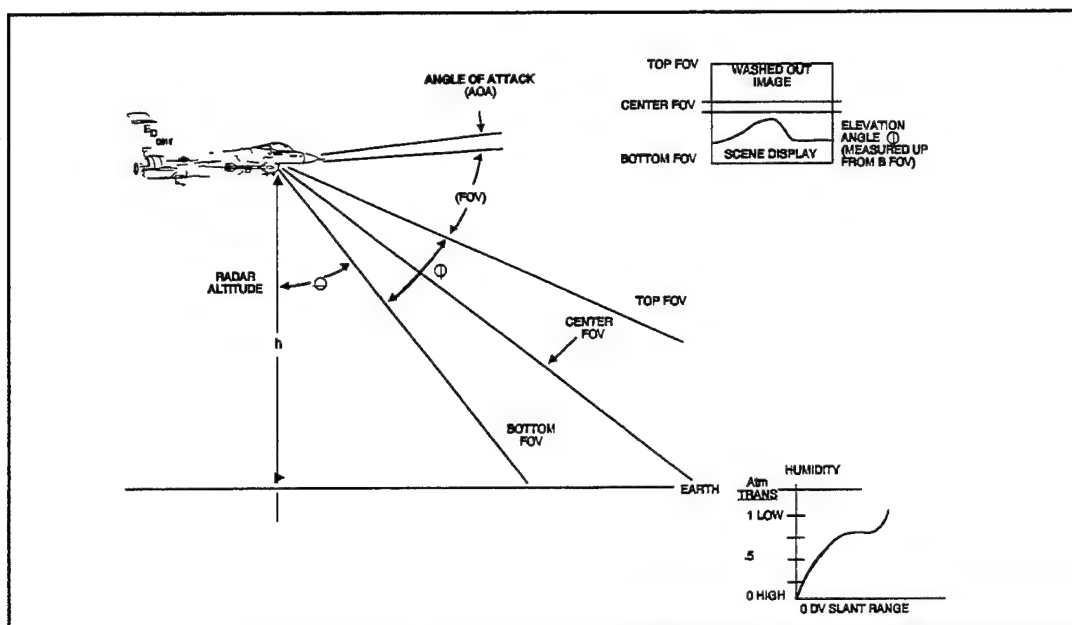

FIGURE 3.7 IRDS VIEWING DISTANCE
(6) IRDS Viewing Distance. Determining the effective IRDS viewing distance is a method used to evaluate the effects of atmospheric transmission (e.g., humidity) on system performance. As atmospheric transmission decreases (mostly corresponding to higher humidity levels) the contrast between objects at long ranges (the upper portion of the display) will decrease. Thus the upper portion of the screen will appear washed out (no scene detail) while the lower portion provides usable video. The effective IRDS viewing distance is defined as the range at which scene detail is lost. Using a flat earth assumption (see Figure 3.7) the IRDS viewing distance ( $D_v$ ) is :